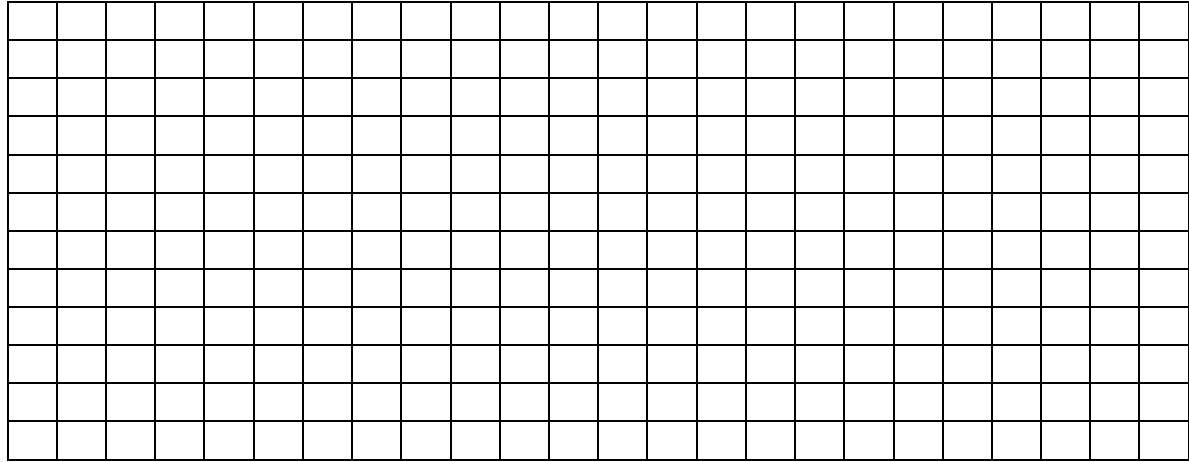

Fig. 5 - Graph for Waveform
12) Draw the waveform on figure 5, carefully noting the required number of horizontal and vertical divisions. Record your chosen *volts/div* and *time/div* settings.